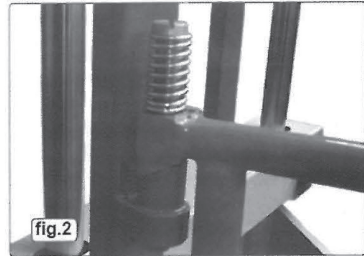

fig.2
5. Fit the guard by dropping it onto the bottom pivot and then fitting the large pin and spring into the top pivot holes and fitting a screw (fig 2). Some pressure will be needed to push down on the pin to allow the nut to be fitted.